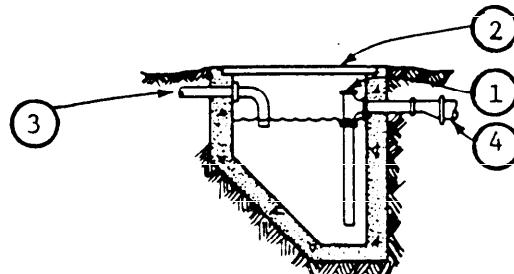

Figure 16
6.6.1 General Description. Grease traps are used to remove grease, fats, food particles, and other unsoluable materials from wastewater before they enter the main sewer. Figure 16 illustrates typical grease traps.